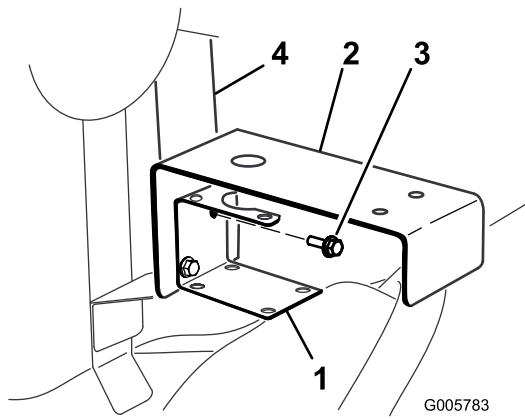

Figure 6
6. Install the control valve bracket between the supply tee bracket and the vehicle (Figure 6).
7. Secure the supply tee bracket and control valve bracket to the mounting frame using the bolts you removed in 5 (Figure 6).